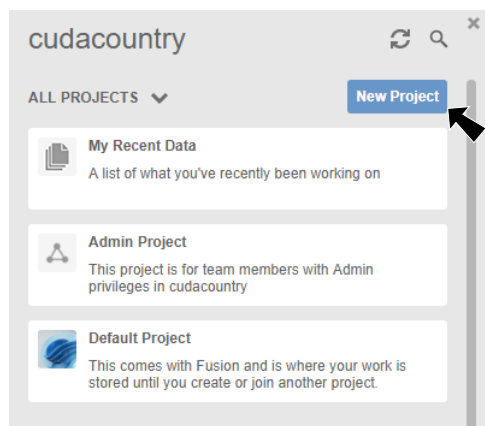

Fig. 8
Step 2. Click **New Project** button in the Data Panel, **Fig. 8**.